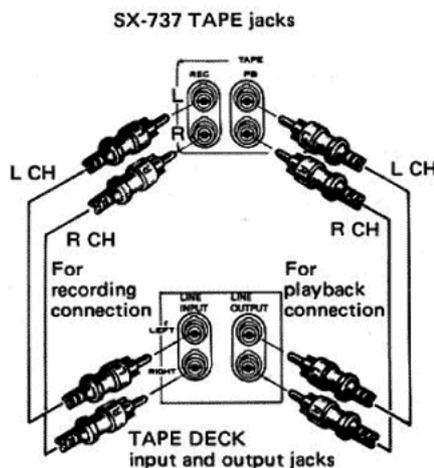

Fig. 8 - Connecting the SX-737 to tape deck.
- Connect the Receiver TAPE 1 REC output jacks to the tape deck recording input jacks (LINE INPUT), as shown in Fig. 8. The upper jack is for the left (L) channel and the lower for the right (R) channel.